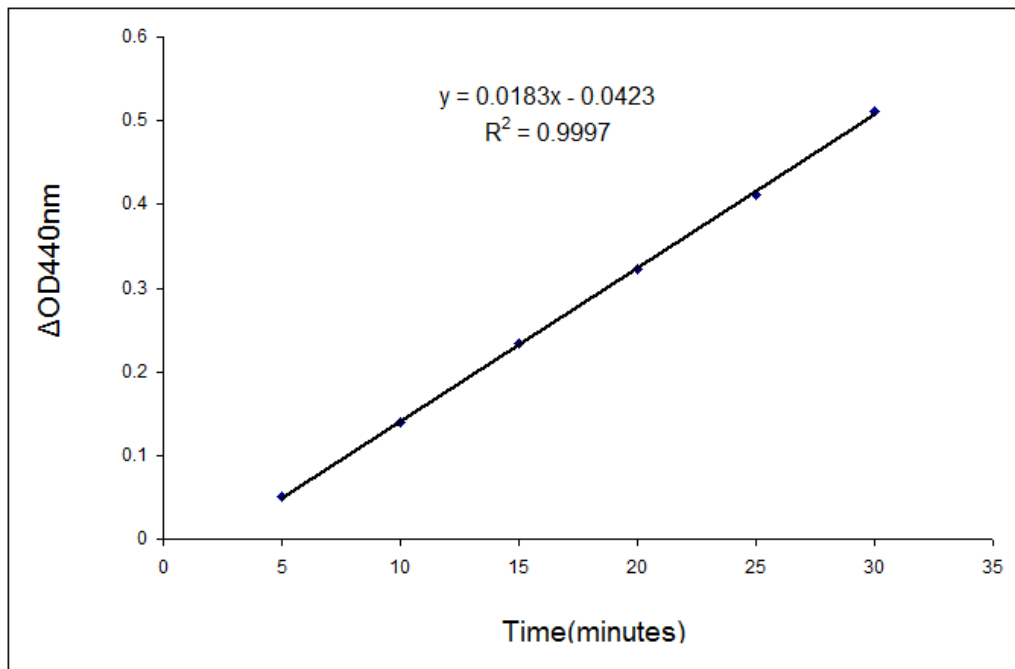

Figure 2. The change in absorbance ΔOD_{440nm} of diluted PDH positive control during the time at 440nm.
- Determine the change in absorbance $\Delta OD_{440nm}/min$ by plotting the absorbance value at ΔOD_{440nm} as a function of reaction time to obtain the slope of the linear portion of the curve, as shown in Figure 2.